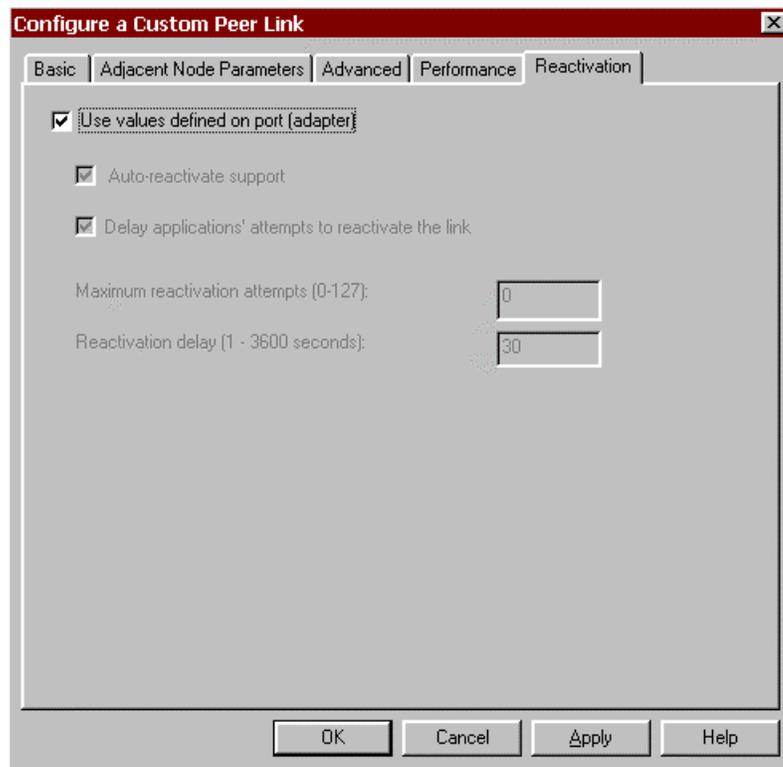

Figure 10-30. Peer Link Reactivation Parameters
6. If you are using NetWare for SAA version 4, click the **Reactivation** tab (Figure 10-30).